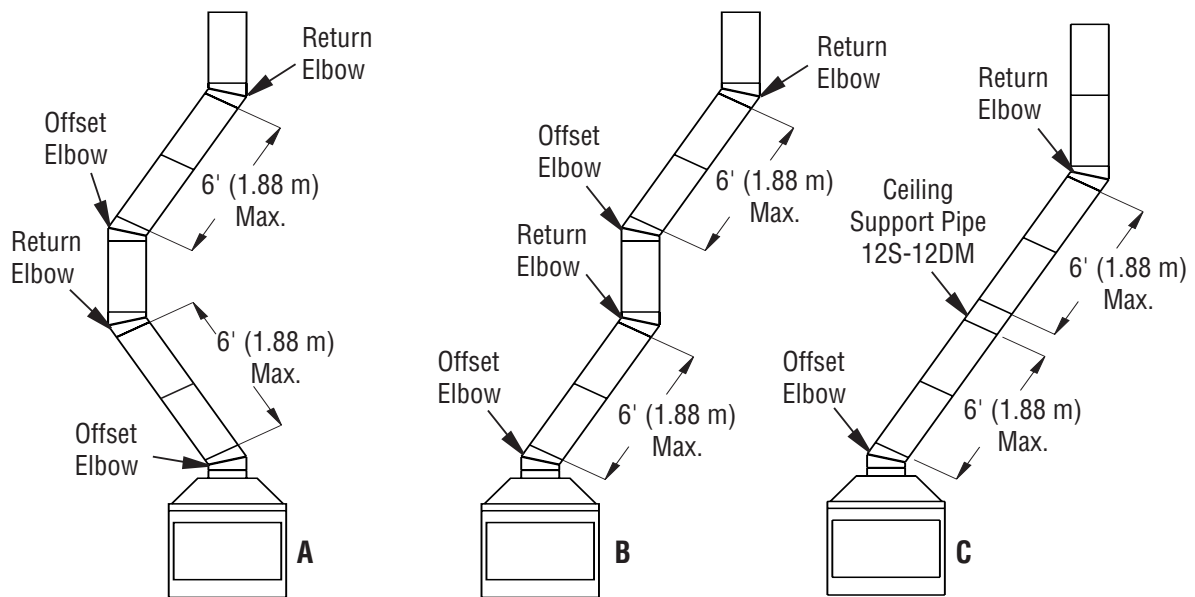

Figure 14 - Typical Offset Terminations
3. Maximum length of pipe between supports (return elbow or 12S-12DM) is 6' of angle run. Maximum of two 6' angle run sections per chimney system (see Figure 14, page 12).